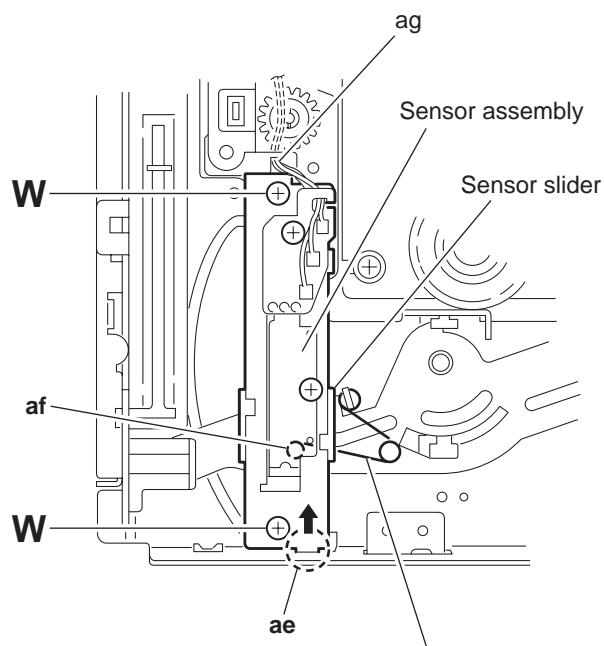

Fig.35
- Remove the two screws **W** attaching the sensor assembly. (See Figs.35 and 38.)
- Move the sensor assembly in the direction of the arrow to release from the joint section **ae**. (See Figs.35 and 38.)
- Remove the sensor spring attached to the bottom of the sensor assembly from the boss **af** on the sensor slider. (See Figs.35 and 36.)
- Let the wire extending from the sensor assembly through notch **ag** to the bottom of the DVD changer mechanism assembly. (See Figs.35 and 38.)
- Joint section **ae** of the sensor assembly to the notch **am** of the DVD changer mechanism assembly. (See Figs.35 and 38.)